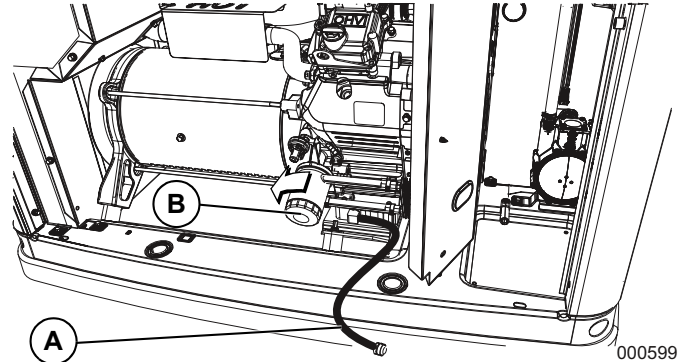

Figure 4-2. Oil Filter and Drain Location
2. A few minutes after the engine shuts OFF, when it has cooled slightly, lift the lid and remove the front panel. Pull the oil drain hose free of its retaining clip. See A in Figure 4-2 Remove the cap from the hose and drain the oil into a suitable container.
4. With the oil drained, remove the old oil filter by turning it counterclockwise. For filter location, see B in Figure 4-2.